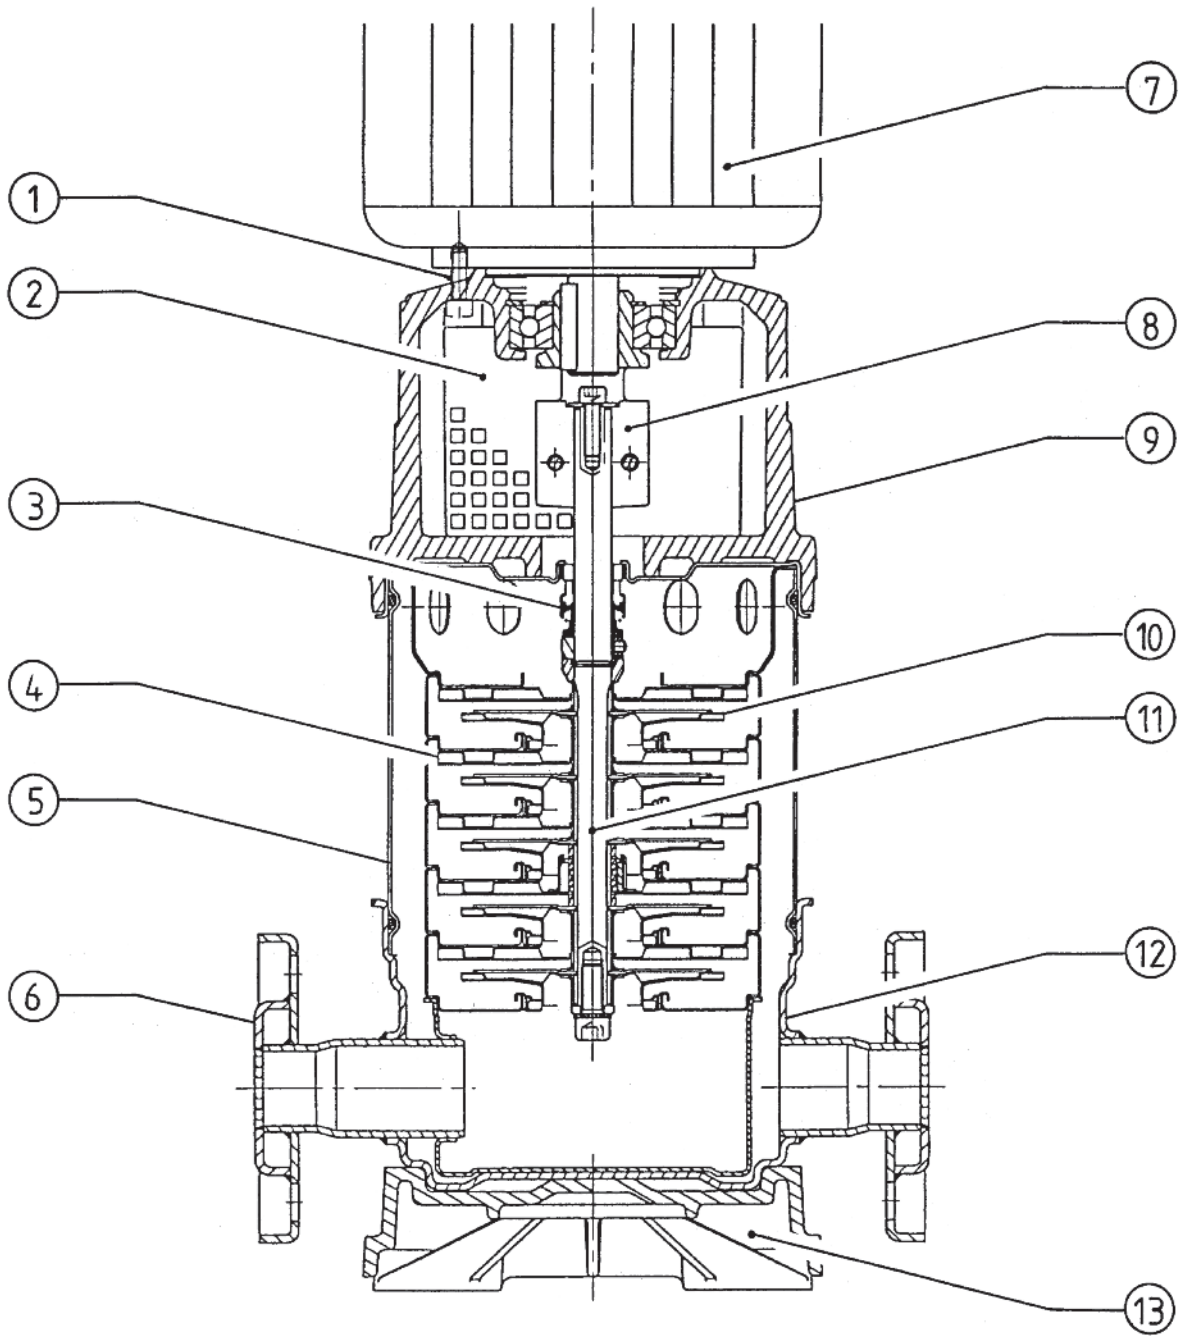

Fig. 2
- Install the pump in an easily accessible place to facilitate inspection and disassembly. Always install the pump exactly perpendicular on a sufficiently heavy concrete base (Fig. 2, 3). Fit a vibration absorber between the base and the floor.
- For heavy pumps, attach a hook (Fig. 2, 12) or an eye with adequate load-bearing capacity vertically above the pump (for total weight of the pump see catalogue or data sheet), so that the pump can be attached to a crane or other lifting gear for maintenance or repairs.
- Fit the inlet and outlet pipes without stress. Install bellow expansion joints of restricted length to absorb vibrations. The pipes must be attached (Fig. 2, 7) in such a way that the pump does not bear the weight of the pipes.
- Isolation mechanisms (Fig. 2., 2&3) must in principle be installed in front of and behind the pump to avoid having to empty and refill the whole installation when inspecting or changing the pump.
- A backflow preventer (Fig. 2., 4) should be fitted in the outlet pipe.
- If the pump is to be connected directly to the public drinking water mains, a backflow preventer (Fig. 2., 4) and isolating valve (Fig. 2., 2) must also be installed in the inlet pipe.
- If the pump is to be connected indirectly via a reservoir, a suction strainer (Fig. 2, 8) must be provided in the inlet pipe by the customer to prevent coarse impurities entering the pump.
- To prevent the formation of air pockets and hence high temperatures in the upper section of the pump at low flow rates (which would damage the axial face seal), a bypass pipe can be fitted to the pump (Fig. 2, BP, accessories).